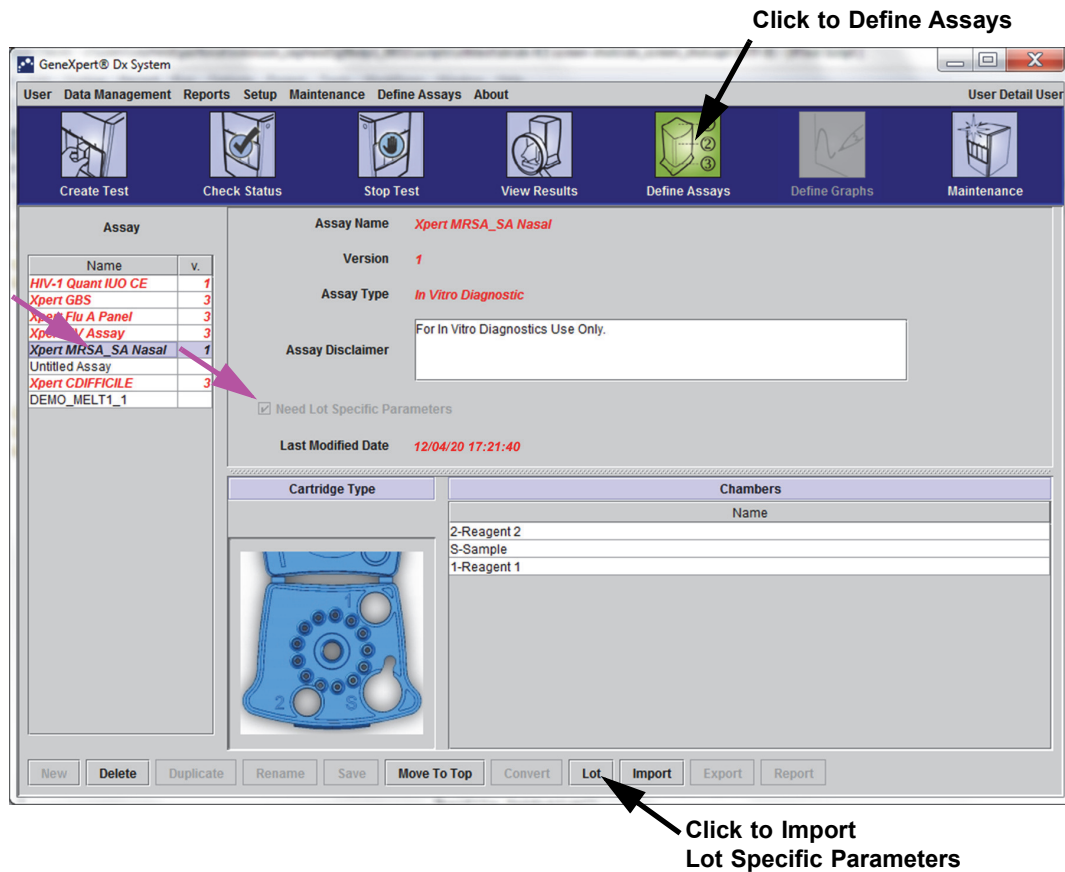
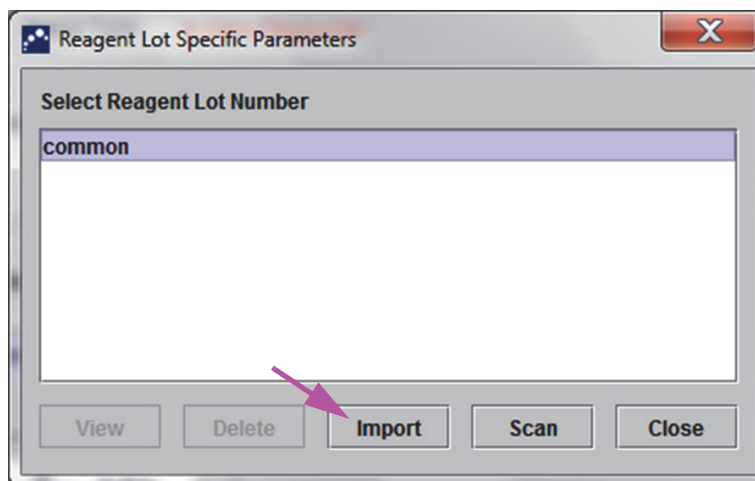

Figure 2-53. Define Assays Window, showing Need Lot Specific Parameters Box Checked
Figure 2-54. Reagent Lot Specific Parameters Dialog Box
1. In the Define Assays window (see Figure 2-53), select the assay name in the **Assay** list (on the left side of the window).
2. Click **Lot**. The Reagent Lot Specific Parameters dialog box appears. See Figure 2-54.
Figure 2-54 shows the common Reagent Lot Number before importing specific lots. If assays and/or lot specific parameters have already been imported into the system, the reagent lot numbers will be displayed.
1. In the **Define Assays** window (see Figure 2-53), click **Lot**. The Reagent Lot Specific Parameters dialog box appears. See Figure 2-54.